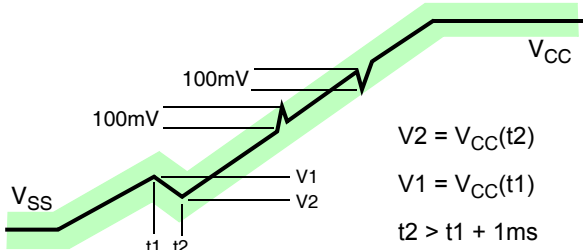

FIGURE 3. V_{CC} MONOTONICITY AND NOISE RESTRICTIONS
2. The voltage ramp on V_{CC} should be monotonic (does not reverse direction) and contain no noise greater than 100mV. See Figure 3.